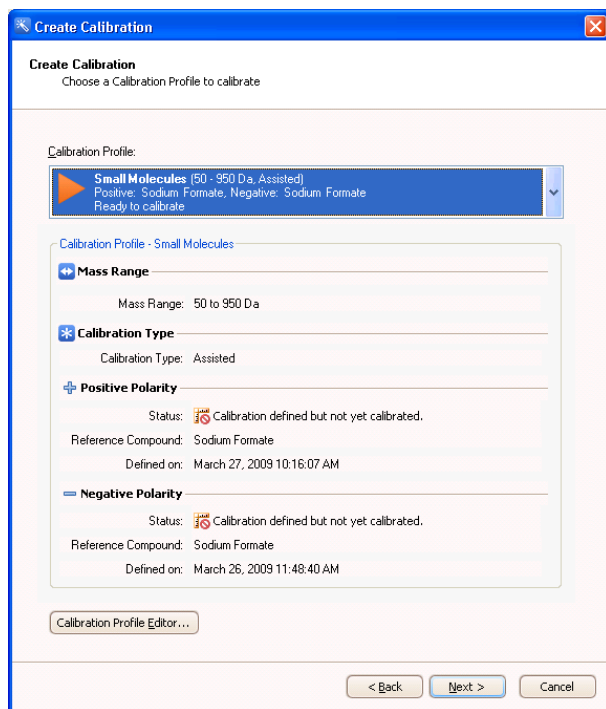

Figure 50 - Accessing the Calibration Profile Editor
6. Select the **Small Molecules** calibration profile from the drop-down list (Figure 50).